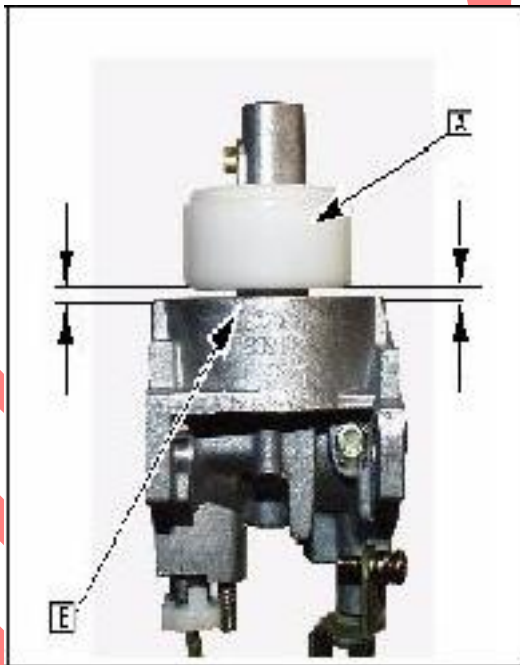

Fig. 47
NOTE: The float (A) should be parallel to the float bowl mounting surface ([B] Fig. 47).